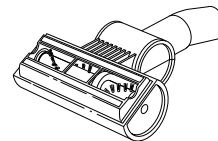

Fig. 30
- Turn the power brush over to inspect the rotating brush and cut away any build-up of hair or string wrapped around the rotating bristle brush with scissors. **(Fig. 30)**